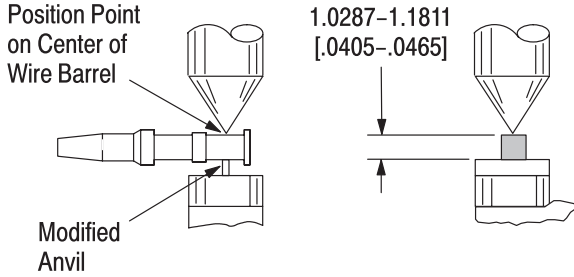

Figure 5
This tool is provided with a crimp adjustment feature. Initially, the crimp height should be verified as specified in Figures 5 and 6. Refer to Section 5, INSPECTION, and Section 6, CRIMP HEIGHT ADJUSTMENT, to verify crimp before using the tool to crimp desired connectors and wire sizes
This inspection requires the use of a micrometer with a modified anvil as shown in Figure 5.
3. Using a crimp height comparator, measure the crimp height as shown in Figure 5. If the crimp height conforms to that shown, the die assembly is considered dimensionally correct. If not, return the dies to Tyco Electronics for evaluation and repair (refer to Section 8, DIE REPLACEMENT).